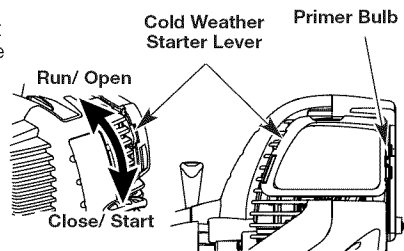

Fig. 11
IF COLD... For cold weather conditions (below 40°F), flip the Cold Weather Start Lever (Fig. 11) down to the start/closed position and continue to step 3. DO NOT flip this lever down if the temperature is above 40°F.
3. Fully press and release the primer bulb 10 times, slowly. Some amount of fuel should be visible in the primer bulb (Fig. 11). If fuel cannot be seen in the bulb, press and release the bulb until fuel is visible.